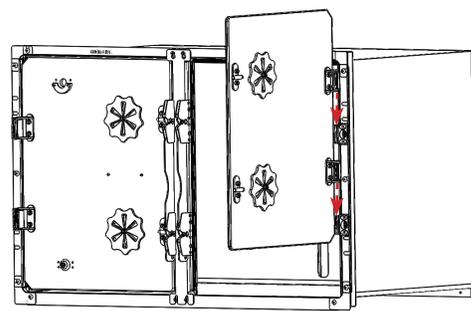

FIGURE 2.21 - Door Installation
STEP 8: Repeat STEP 7 to install the conversion door on the right-hand side of the cage. See FIGURE 2.21